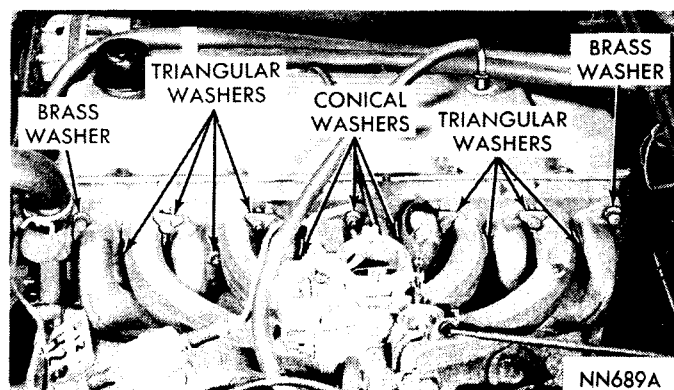

Fig. 7—Installing Manifold Assembly (Six Cylinder Engines)
(1) Disconnect air cleaner vacuum line from carburetor and flexible connector between air cleaner and carburetor air heater at the heat stove and lines from OSAC unit if so equipped.
(2) Disconnect crankcase inlet air cleaner to air cleaner hose and remove air cleaner.
(3) Disconnect distributor vacuum control line, crankcase ventilator valve hose.
(4) Disconnect fuel line, automatic choke rod and throttle linkage from carburetor and remove carburetor. Disconnect EGR hoses and remove EGR valve if so equipped.
(5) Disconnect exhaust pipe at exhaust manifold.
(6) Remove carburetor air heater if so equipped.
(7) Remove nuts and washers attached manifold assembly to cylinder and remove manifold (Fig. 7).
(8) Remove three screws securing intake manifold to exhaust manifold and separate manifolds.